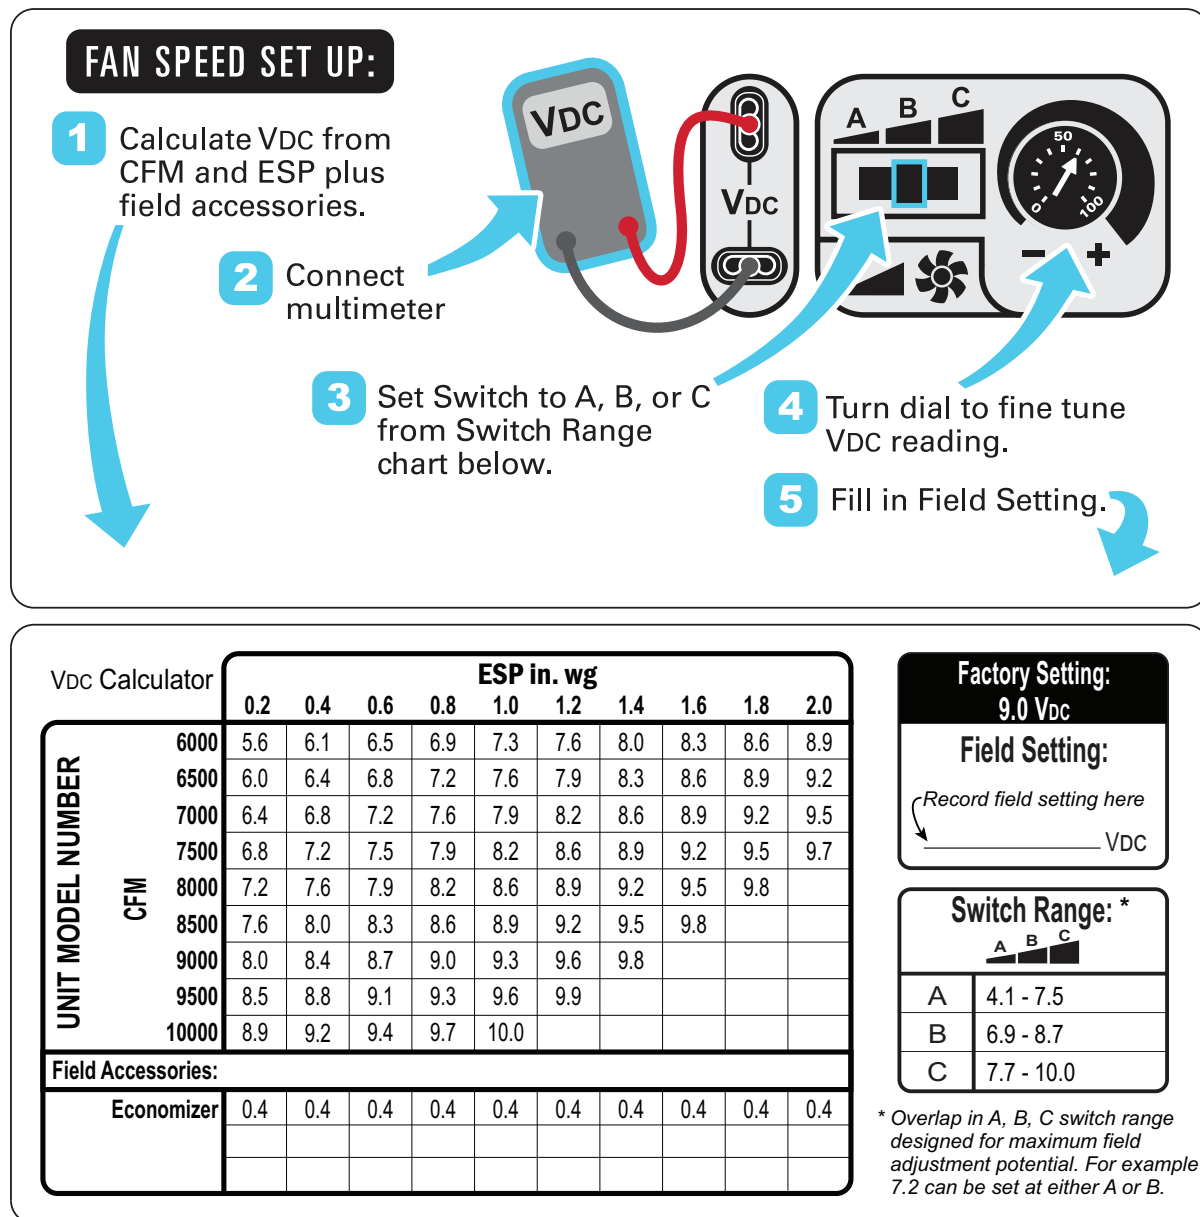

Fig. 75 — Example of Fan Speed Set Up Labels for Electro-Mechanical Controls
2. Using the chart on the Fan Speed Set Up labels (see Fig. 75), calculate the vdc from the CFM and ESP for the base unit. Then add vdc for any accessories installed per the “Field Accessories” section of the label.